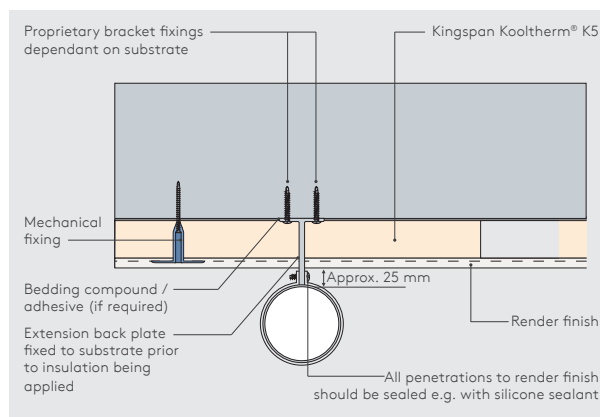

Figure 8 - Drainpipe extension detail (applicable to a variety of external building ancillaries)
- Wherever possible, care should be taken to avoid cold bridging when attaching services and ancillaries to the exterior of the building (see Figure 8).